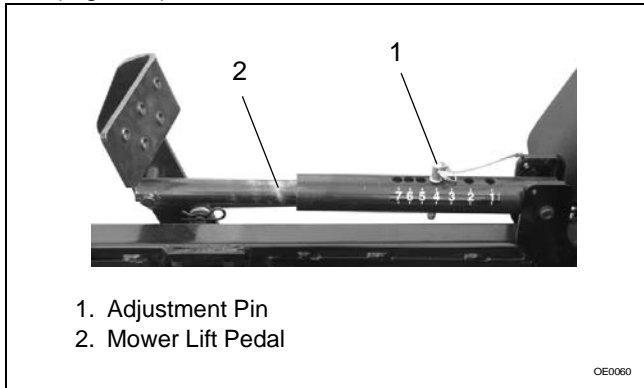

Figure 7
1. Install adjustment pin in the fourth adjustment hole (Figure 7).